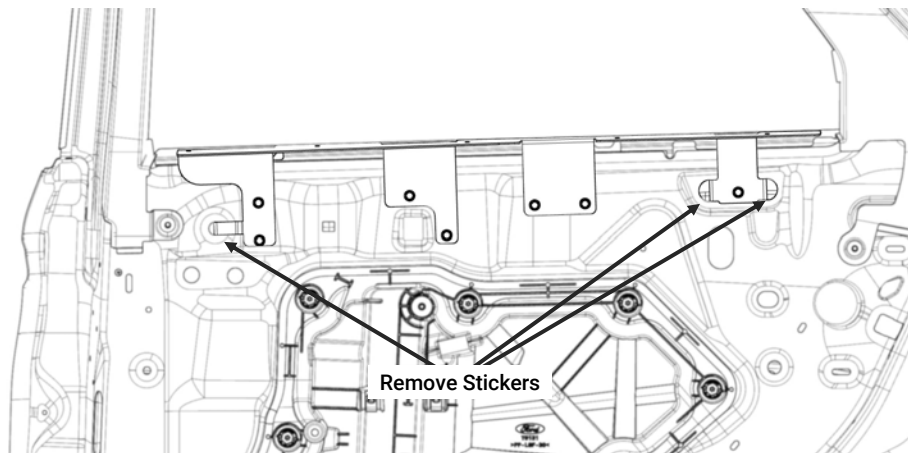

Figure 22
2. Remove the stickers covering the large holes identified in Figure 22.
3. Set the Door Panel Support Bracket [3DRP472010] against the door and position it such that the locator tabs rest inside the large holes that the stickers were removed from. Mark the (7) fastener locations for the bracket with a marker or center punch.
5. Install the support bracket using (7) [3X162] self-drilling fasteners and a 3/8" socket.